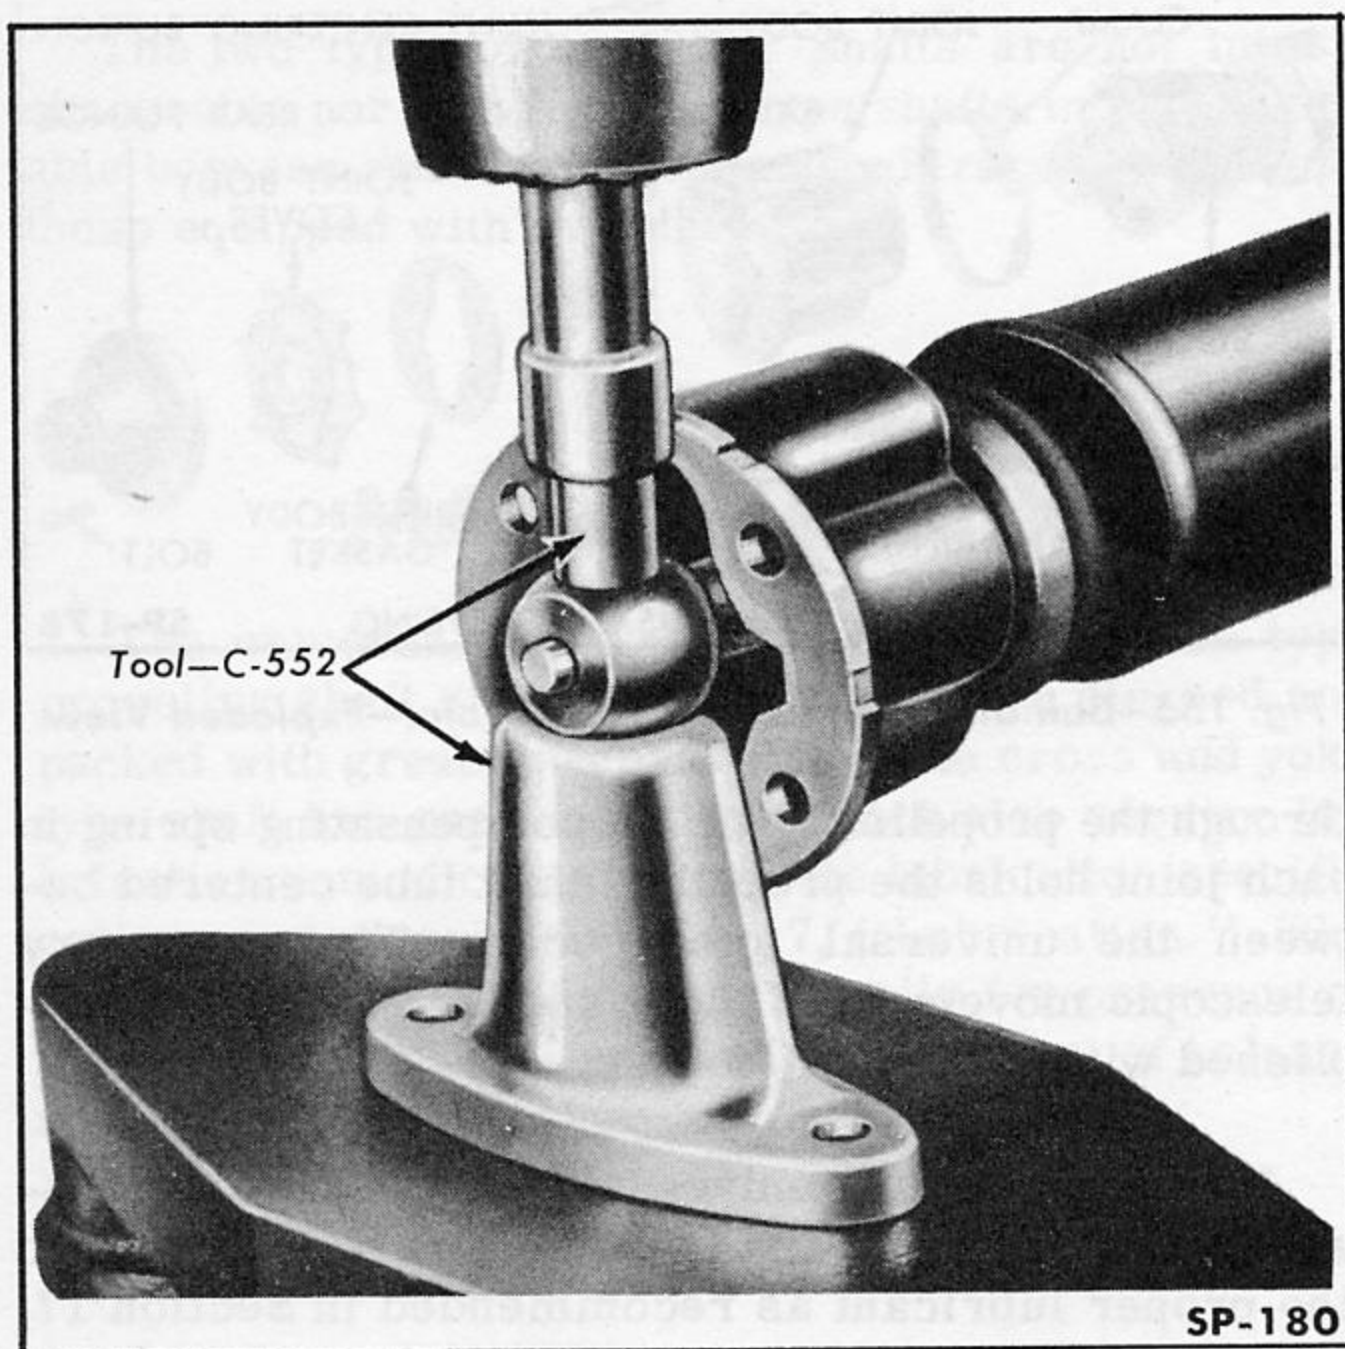

Fig. 156—Removing Trunnion Pin
4. Press trunnion pin out of joint ball at end of propeller shaft using Universal Joint Pin Jig C-552 (Fig. 156).